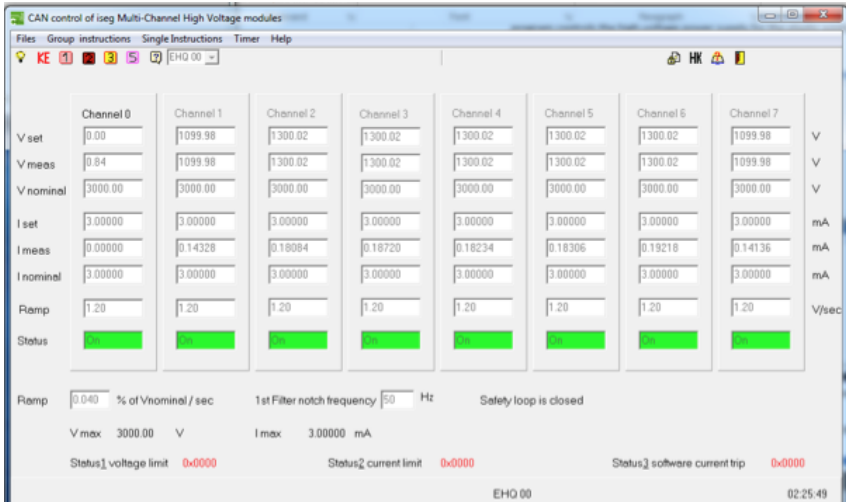

Figure 14a. iSEG Multi-Channel High-Voltage Modules; Ch00.
- Click on the **EHQ00** and **EHQ01** (or **EHS00** and **EHS01**) modules. A window opens for each module (Fig. 14a and 14b). Check the following items: